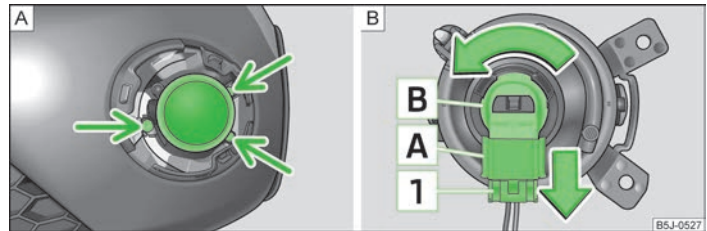

Fig. 149 Front bumper: Fog lights/fog lights: Replacing the light bulb
- » Use the screwdriver » page 156, *Vehicle tool kit* to remove the screws » Fig. 149 - **A**.
- » Press the locking button **1** » Fig. 149 of the plug **A** and remove the plug from the socket **B**.